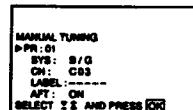

Fig. 11
- Select "MANUAL TUNING" with $\Delta+$ or $\nabla-$ and press OK. The MANUAL TUNING menu appears. (See Fig. 11.)